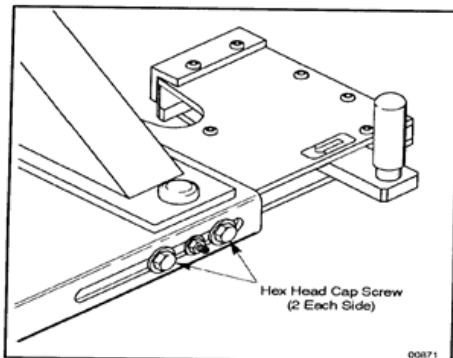

Figure 4-5 Rear Base Extension
3. With a 9/16" wrench, loosen the four hex head screws at the bottom along the sides on the rear base extension. (See Figure 4-5.)